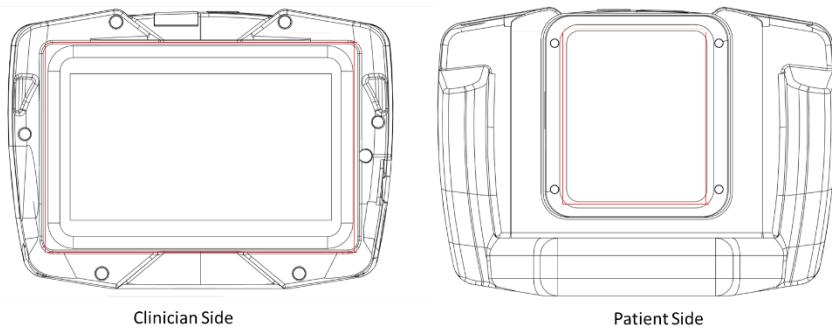

Figure 4 SnapshotGLO – Cleaning parts
**Pre-Clean the SnapshotGLO:** Wear impervious gloves such as latex gloves when handling disinfecting wipes. Use a disinfecting wipe to remove all debris from the SnapshotGLO by gently wiping ALL SIDES and surfaces including the Display Screen and optical components identified within the red perimeters in Figure 4.
**Disinfect the SnapshotGLO:** Use another disinfecting wipe to thoroughly wet ALL SIDES and surfaces (see Figure 4) of the SnapshotGLO, including the Display Screen and optical components identified within the red perimeters in Figure 4. Let the SnapshotGLO remain wet for 3 minutes at room temperature. Allow the SnapshotGLO to dry.
**Clean the SnapshotGLO:** Use a Lens Cleaning Towelette to thoroughly clean the Display Screen and optical components identified within the red perimeters in Figure 4. There should be no visible debris, fingerprints or material on the Display Screen or any of the optical components after cleaning. Allow the SnapshotGLO to dry. The SnapshotGLO is now clean, disinfected and ready for use